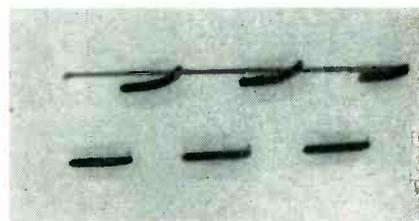

Fig. 5—Vertical waveform is relatively invisible as shown above.
A. A typical situation of this kind is illustrated in Fig. 5. The invisibility of